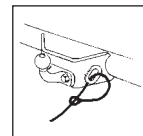

Fig. 1
- Pass the cable through attachment point and clip it back on itself (Figure 1 below); or